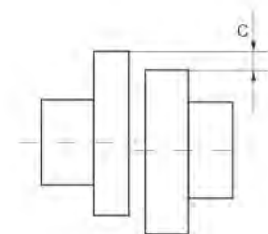

图5 Fig.5
b、在调正泵和电动机时，垫片应垫在电动机的下面。角度调正是保证联轴器的两个平行度，用一块千分表去检查联轴器法兰端面上四点，千分表读数为0.02~0.03，检查其平行度也可用塞尺，两联轴器平面间的差值（a-b）≤0.06（见图5）。
中心线对中指泵和电机轴中心线的对正程度，应使c=0.08（见图5）。
b. Put the pad under the motor while to adjust both pump and motor. Angle adjustment is to guarantee the parallelism of the two planes of the clutches. Use a dial gauge to check four points on the end-face of the clutch flange, the reading on the gauge is 0.02~0.03, and use a feeler to check the parallelism, the difference (a-b) between the two planes is ≤0.06 (see Fig. 5).
Central line alignment means the aligned degree between the central lines of both pump and motor's shafts, c should be ≤0.08 (see Fig. 5).